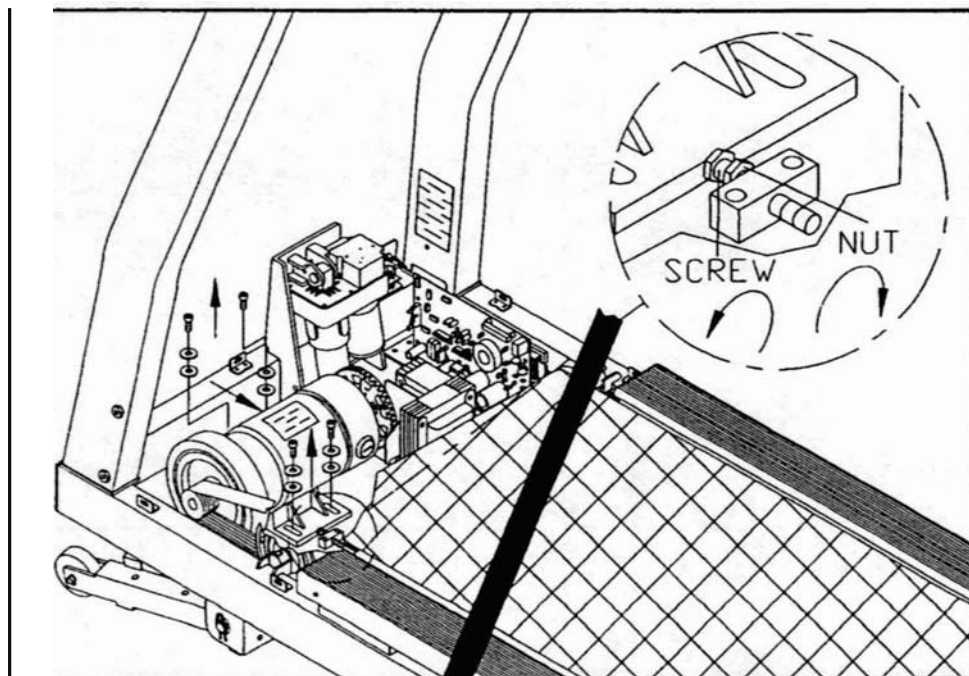

Fig.2
3. Using one combination wrench, unscrew the nut by turning clockwise. Then turn the adjustment screw counterclockwise to loose the motor frame. And release the poly-V belt. Loosen all screws along with washers, and remove motor. (see Fig.2)